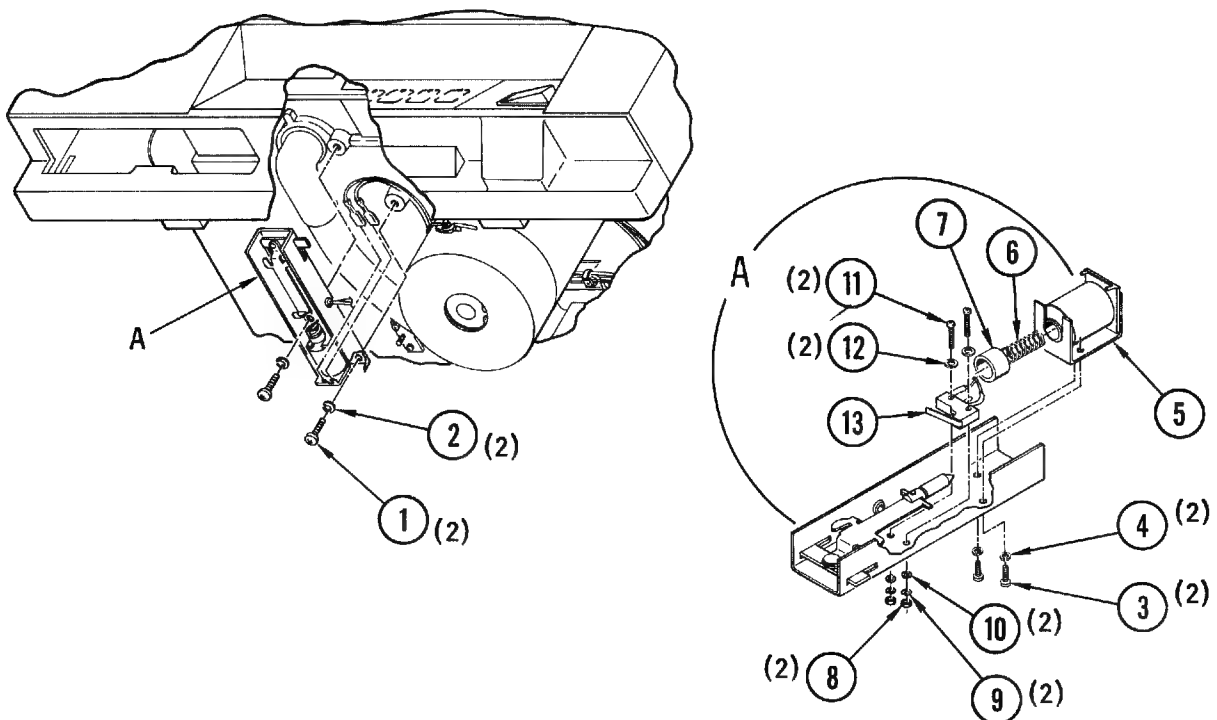

Figure 4-30. Door Lock Assembly
4-48. **Removal and Disassembly (Figure 4-30).** Place the transport in service access position (paragraph 4-3). Remove the door lock assembly from the top plate and disassemble as necessary to replace defective parts as follows:
- c. Remove door lock assembly from top plate by removing two screws (1, Figure 4-30) and lockwashers (2).
- e. Remove two screws (3), and lockwashers (4), and remove solenoid (5) from assembly. Remove spring (6) and spacer (7).
- f. Remove switch (13), by removing two nuts (8), lockwashers (9), flat washers (10), screws (11) and flat washers (12). Switch may then be removed by sliding out solenoid end of bracket.